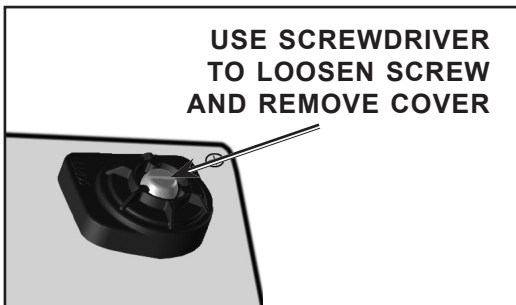

FIGURE 1
2. Open the SEMS II REPEATER UNIT case by lifting the two (2) front latches and opening the cover.
3. Use a screw driver to remove the Battery Housing Cover as shown in FIGURE 1. Carefully remove the cover and set aside.